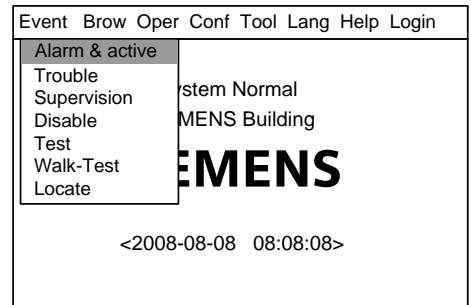

Fig.16-1
- Press "Menu" to browse the main menu (Fig. 16-1)